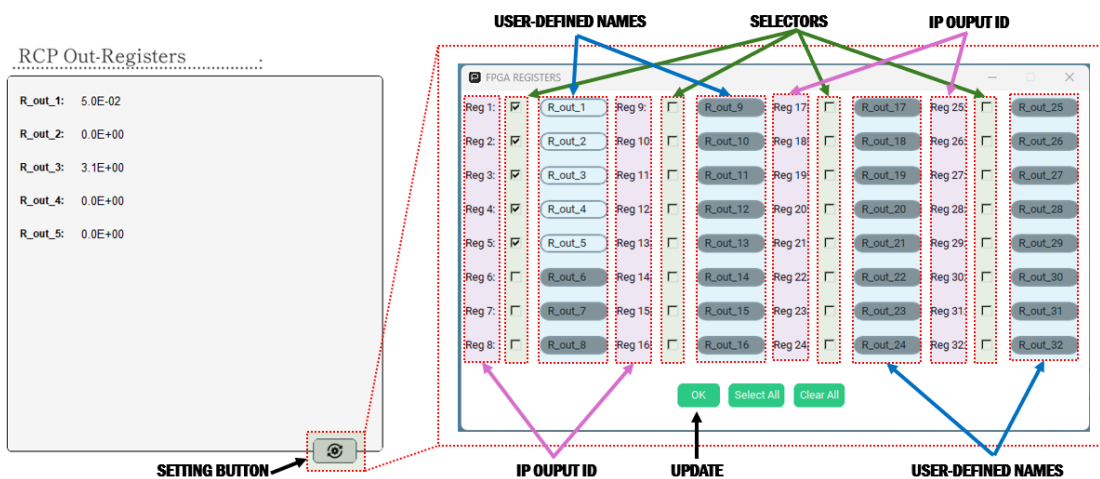

Figure 19: RCP Output-Registers notification area configuration.
- RCP Output-Registers.** This console allows the user to access and visualize the values of the signals read through the readout logs, which have been connected during the development phase in Vivado according to the specific needs of the project. The user can select which registers will be displayed on the main screen of the console using the options that appear in the pop-up window by pressing the "Setting" button located at the bottom right (Fig. 19).